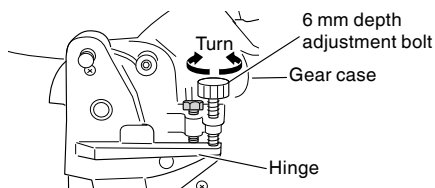

Fig. 11-b
To adjust the lower limit position of the saw blade, follow the procedure (1) shown in Fig. 11-a.